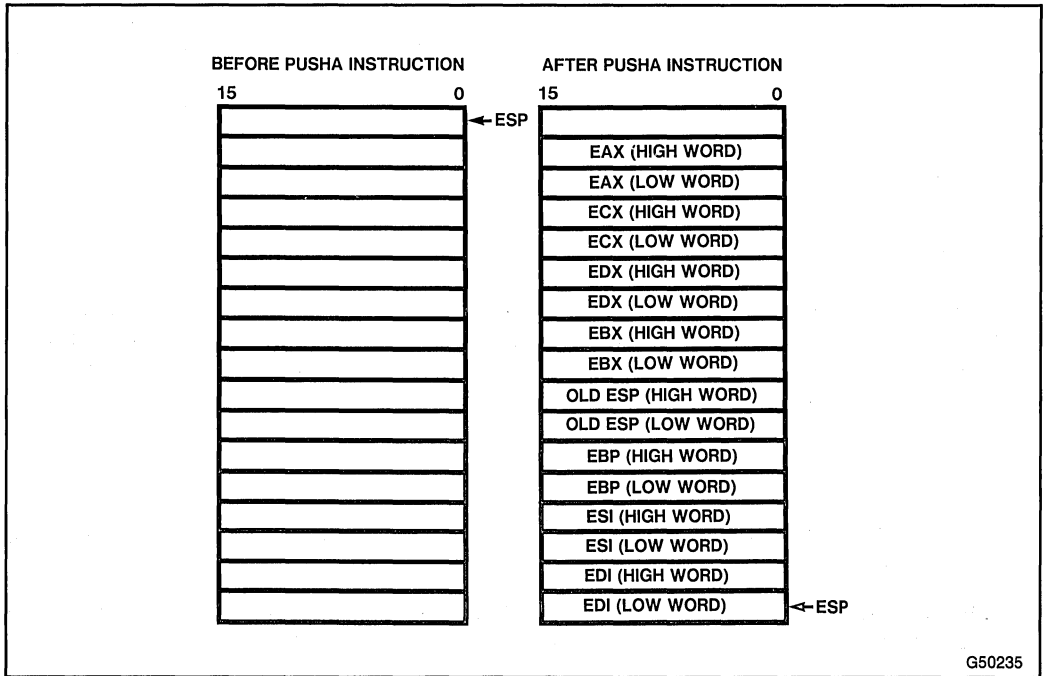

Figure 3-2. PUSH Instruction
**PUSHA (Push All Registers)** saves the contents of the eight general registers on the stack (see Figure 3-2). This instruction simplifies procedure calls by reducing the number of instructions required to save the contents of the general registers. The processor pushes the general registers on the stack in the following order: EAX, ECX, EDX, EBX, the initial value of ESP before EAX was pushed, EBP, ESI, and EDI. The effect of the PUSHA instruction is reversed using the POPA instruction.